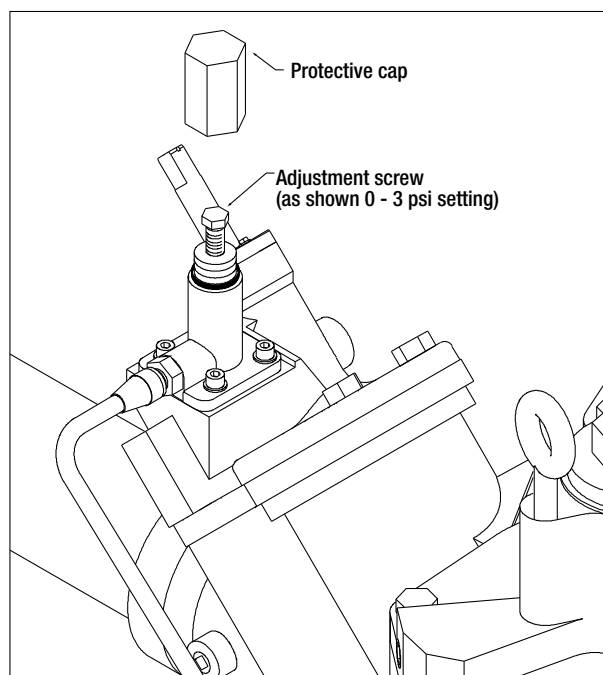

Figure 14. Pressurstat - Pressure Adjustment
- b. Remove the protective cover from the Pressurstat (see Figure 14) and turn the Pressurstat adjustment screw counter clockwise until the screw protrudes 3/4", this will relieve the line pressure to "0" psi.
2. Remove the protective cover (see Figure 14).